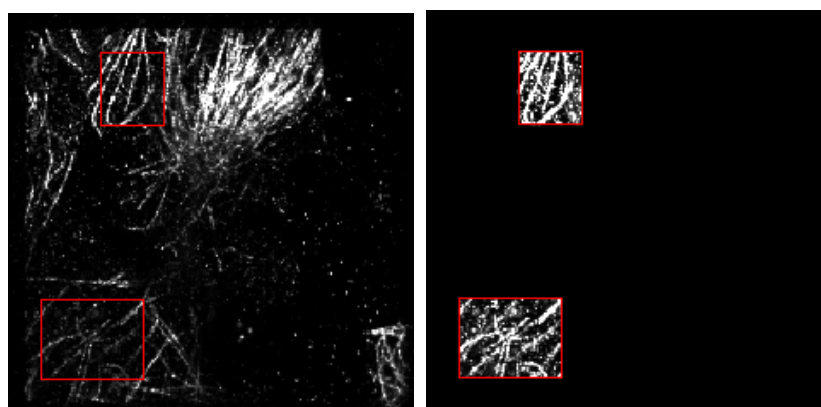

Fig. 660 Image display with two ROIs selected and Use Region(s) box not checked (left panel) and checked (right panel)
- **Region**: Region(s) of interest (ROIs) drawn in the **Graphics** view control tab and defining the min. and max. x-positions as well as min. and max. y-positions in μm . Note that all active ROIs will be taken into account if the **Region** box is checked. **Region** is only available in **Show all** mode. If ROIs are selected, only that part of the image will be displayed and all calculations will be restricted to that part (Fig. 660).